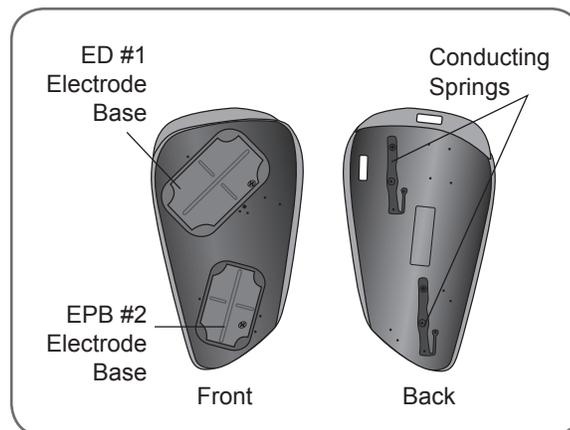

Figure 5-9: Right (Rt) extensor fitting panel, front and back.
Each extensor fitting panel has two electrode bases (Extensor Digitorum (ED) #1 and Extensor Pollicis Brevis (EPB) #2) on one side and two conducting springs on the other side. See Figure 5-9. The conducting springs make electrical contact with the #1 and #2 electrode base sockets on the Orthosis.